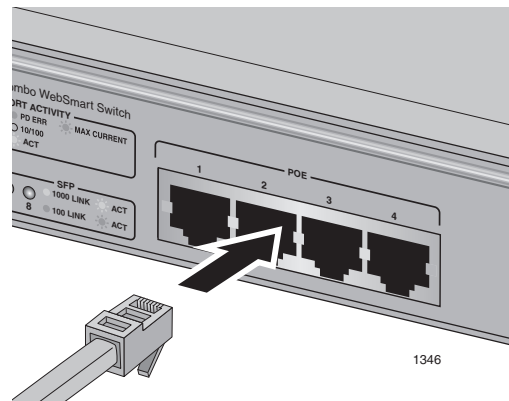

Figure 13. Connecting an RJ-45 cable
1. Connect an RJ-45 cable to a twisted-pair port. See Figure 13.